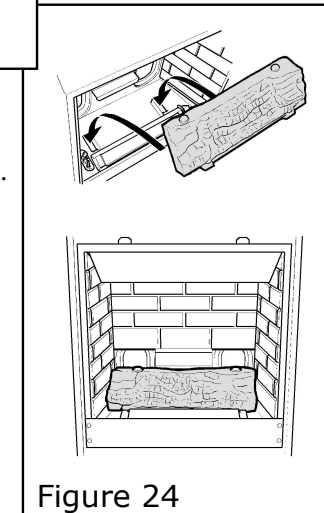

Figure 24
4. Place the base log on the supports in the firebox and against the firebox back. See figure 24.